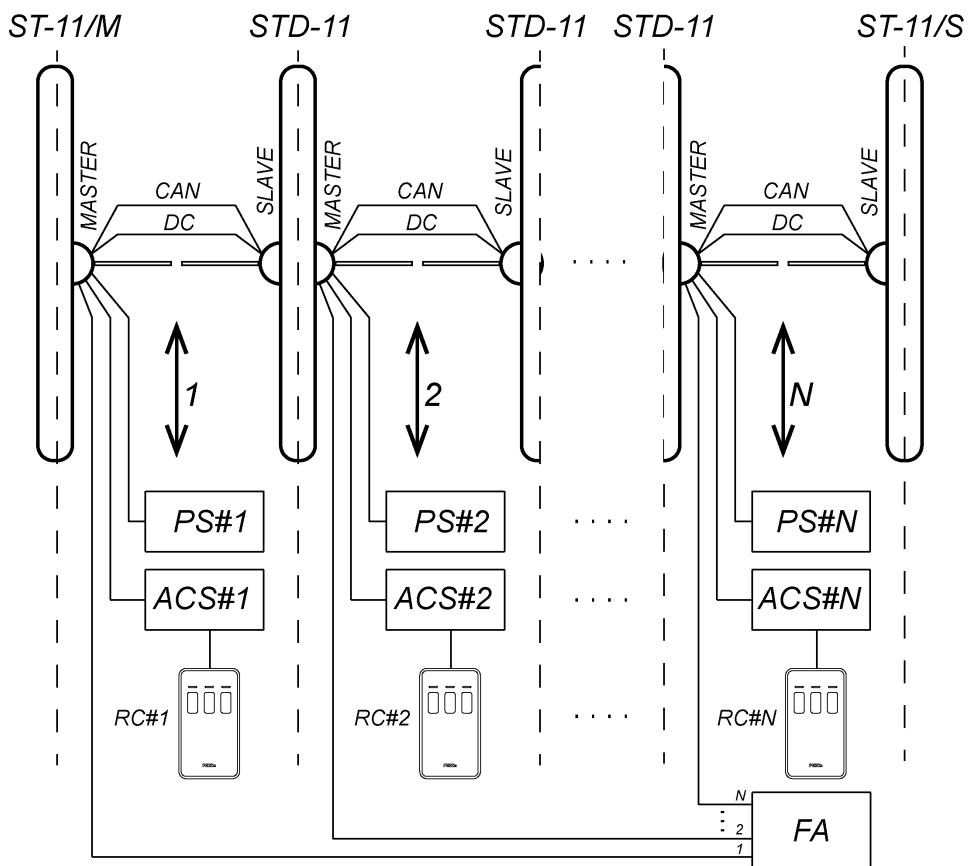
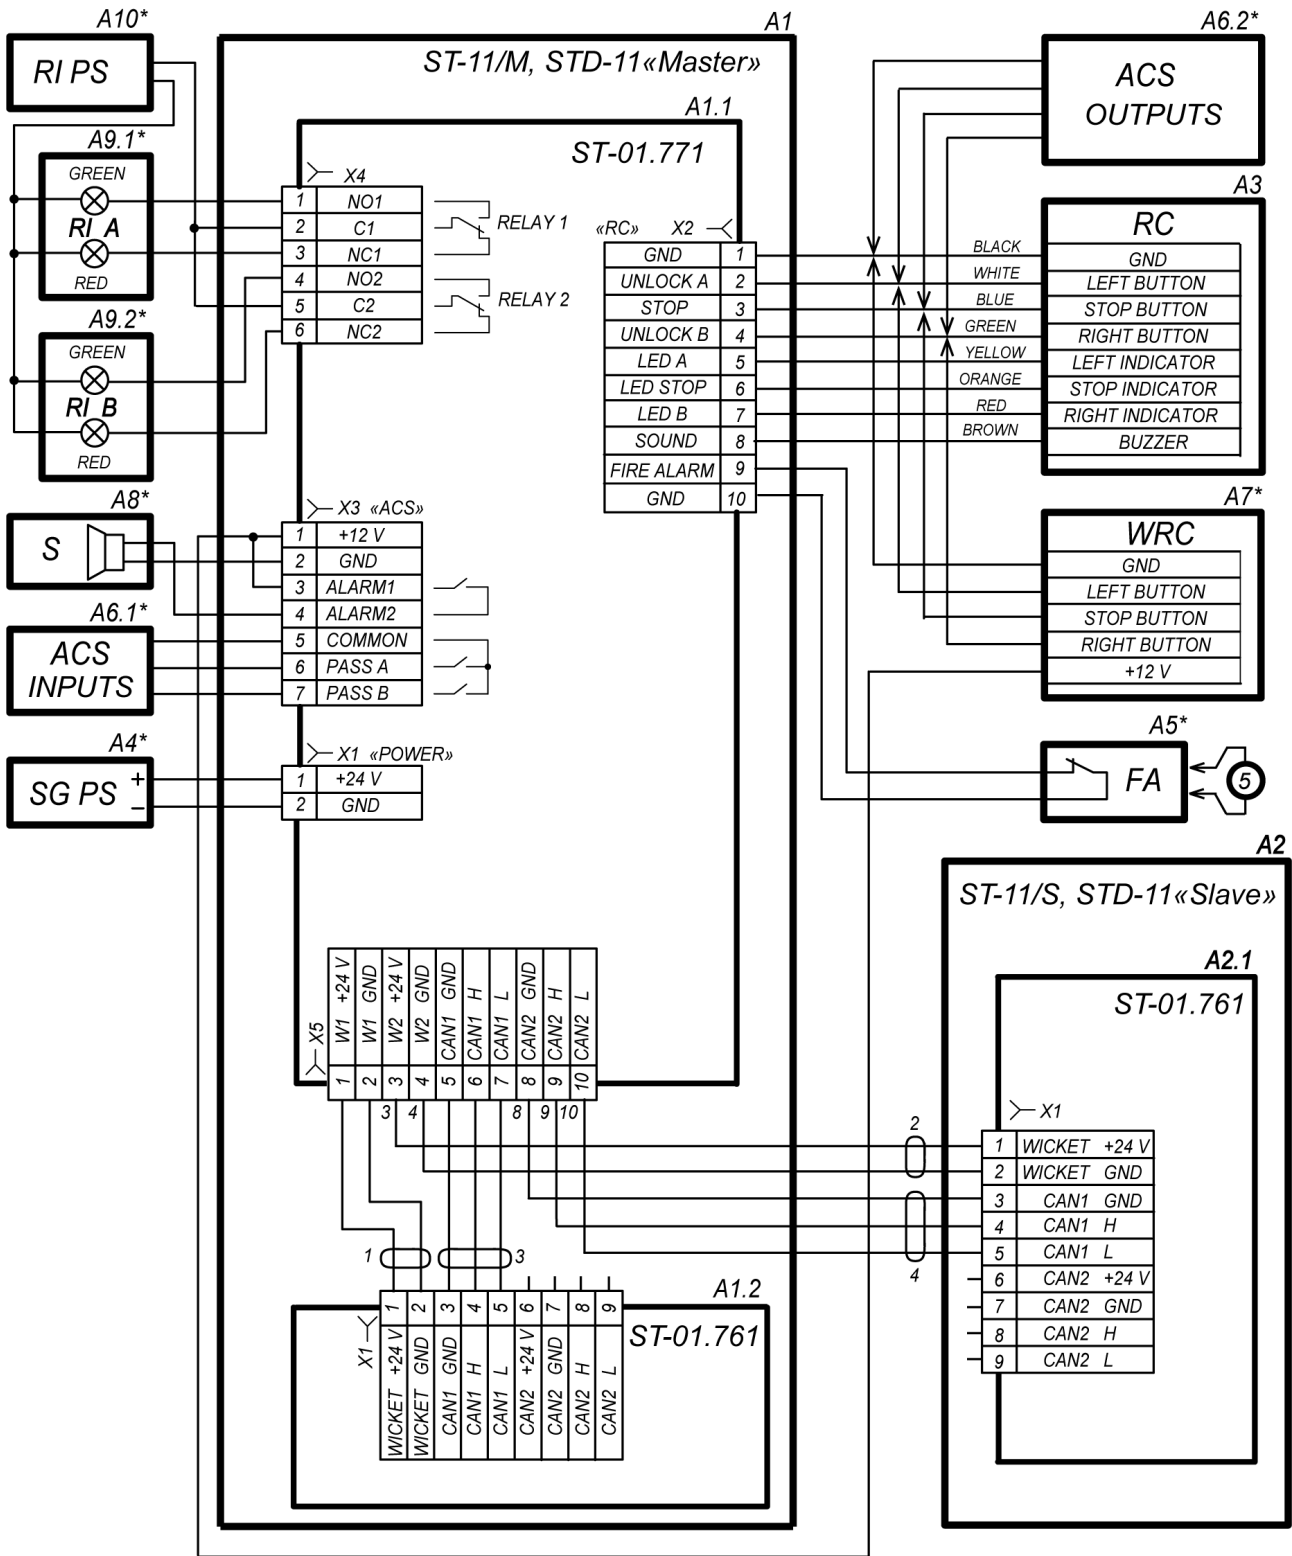

Figure. 17 Diagram of connections for the ST-11 turnstiles and the two-sided sections STD-11 to organize the check-point with several passage zones
Figure. 18 Speed gate wiring diagram¹
Installation order is described with regards to recommendations, given in Sect. 8.1. Installation tools are listed in Sect. 8.2. Figure numbers are given in accordance with Fig. 6 and 7. Speed gate connection layout is given in Fig. 18. Types of cables used are stated in Sect. 5. The example of **ST-01** and **STD-01** connection layout with extra passage lane arrangement is shown in Fig. 17.
When it is impossible to use flexible conduit for cabling, then it is necessary to route DC and CAN cables prior to the sections installation. These cables are located under the housing of the *Slave* section central post (side of the section). To do so it is necessary to unpack the *Slave* section, dismantle the housing of the central post (see Fig. 19), take out DC and CAN cables and disconnect them from the drive control board. There are numbers on the cut-off ends of the core that correspond to the connection layout (Fig. 18).
14. Route cables for controlling the second passage lane by using the hole located in the base plate of the double-section central post (from the *Master* section side): from PS, from RC-panel or ACS-controller, from the Fire Alarm device and from optional equipment. Route DC (16) and CAN (17) cables from the *Slave* section (side of the section) or a flexible conduit for cabling.
20. Connect cables to the control board of the first passage lane according to the speed gate electric connection layout (see Fig. 9 and Fig.18). The control board is located in the bottom side of the *Master* section central post.
DC (2) and CAN (4) cables should be connected to the **X5** terminal blocks of the *Master* section control board and to **X1** terminal blocks of the *Slave* section drive board in accordance with the conduit marking (see Fig. 18).